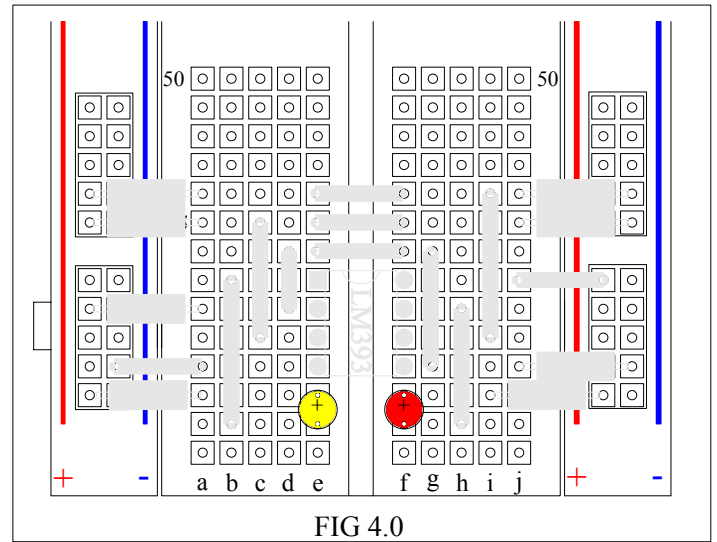

FIG 4.0
5. Step 4 - Insert the Low (RED) and High (YEL) LEDs as shown in FIG 4.0.
Insert Light Emitting Diode (LED) as shown in FIG 4.0.